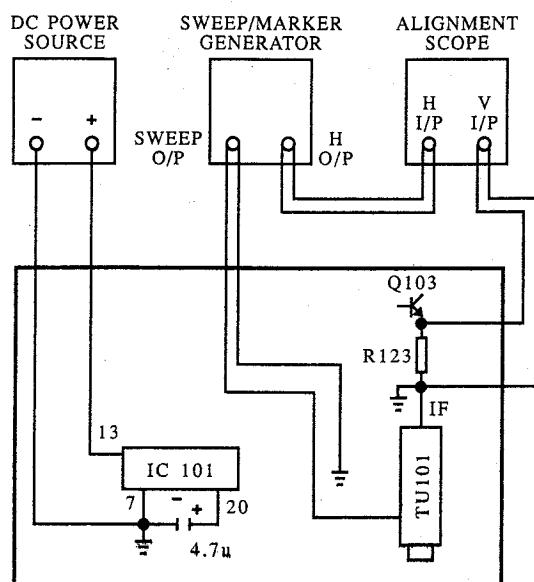

FIG 1 MAIN CHASSIS
1. Supply 10V DC to pins 13 of IC 101 as shown in figure 1.